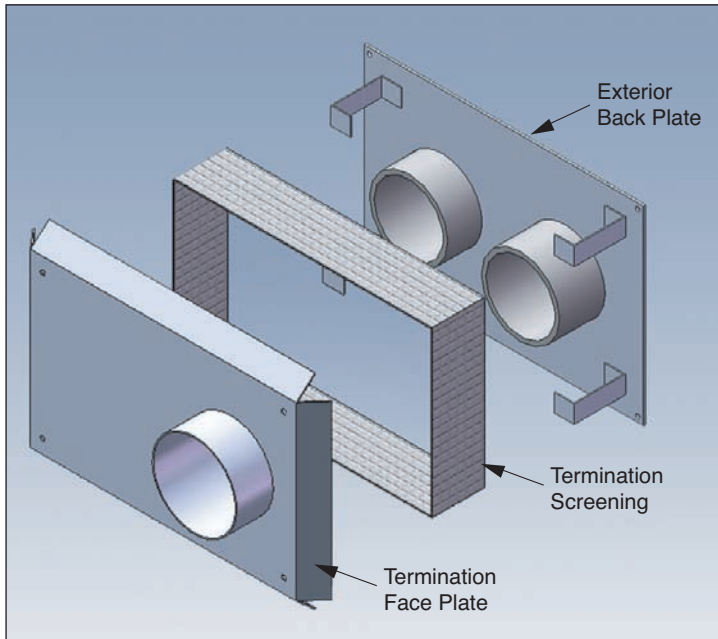
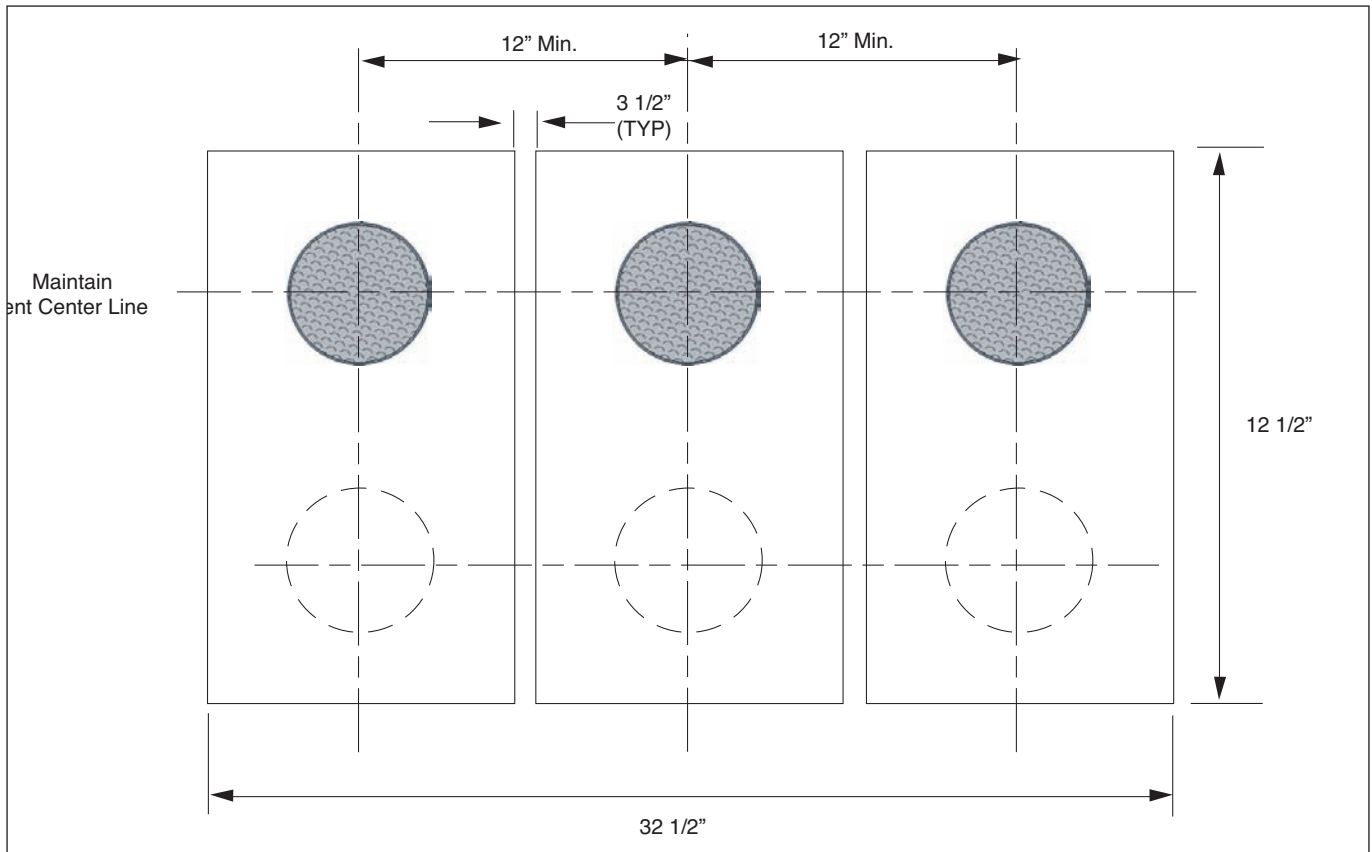

**Fig. 2: Mounting of Interior Plate**
**Fig. 3: Mounting of Exterior Back Plate**
the support bands on the interior plate to support the piping. See Figure 2 and Figure 3.
6. Mount the exterior back plate over the protruding vent and air intake piping. Use the supplied #10 x 1" mounting screws to secure the plate to the exterior face of the building as shown in Figure 3.
7. Apply a bead of high temp silicone (RTV) around the vent and air intake piping where it penetrates through the exterior back plate as shown in Figure 3.
8. Apply a generous bead of high temperature silicone (RTV) along the outside circumference of the vent pipe as shown in Figure 3.